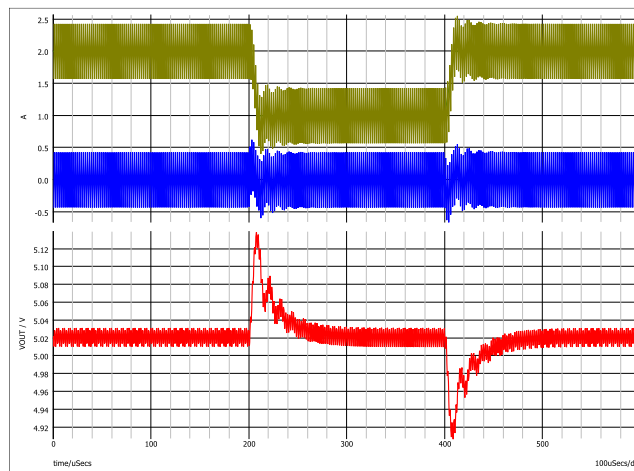

Figure 18: Waveform View of Transient Analysis
4. Click the “Run” button or click “Ok” to save the data. Press F9 to run the simulation. The waveform viewer window opens to show the converter’s frequency performance (see Figure 18).